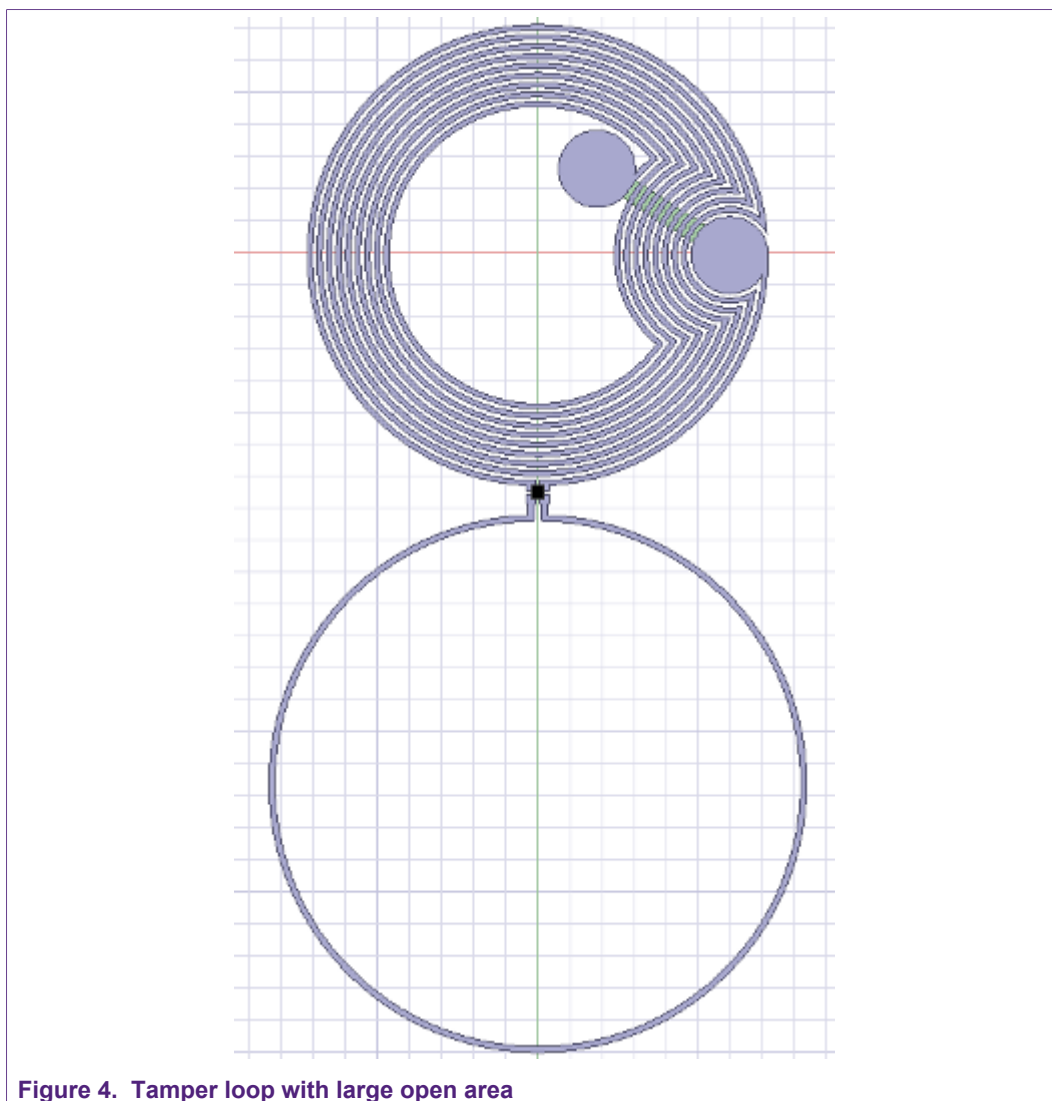

Figure 4. Tamper loop with large open area
1. Avoid large open areas [Figure 4]